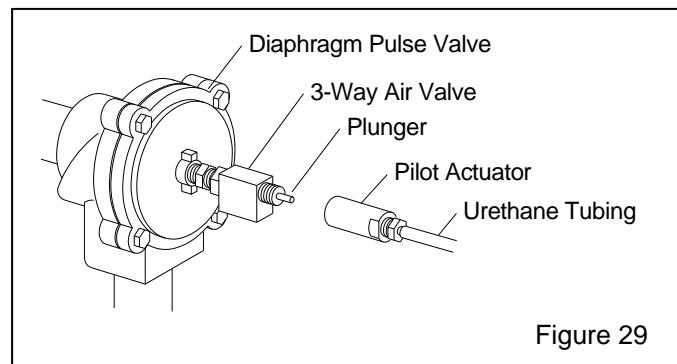

Figure 29
9.15.5 Check the diaphragm pulse valve and actuator assembly. Refer to Figure 29.